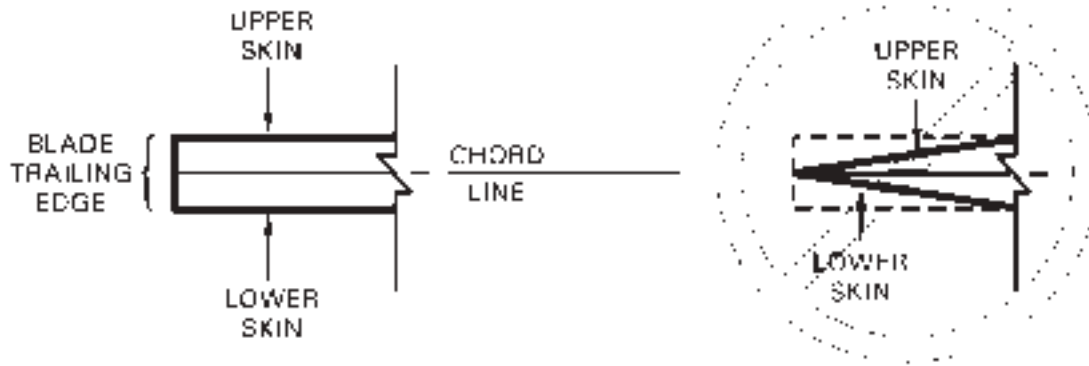

FIGURE 62-15 REPAIRS TO BLADE AND TRIM TAB TRAILING EDGES
1. Refer to Figure 62-15 and § 62-50 for repair procedures for damage within limits. Blend out nicks and notches in blade trailing edge for 1.0 inch minimum each side of nick or notch (with a minimum 12 inch blend radius).
2. File trailing edge to maintain square edge at skins, perpendicular to chord line, per Figure 62-15. Seal exposed trailing edge bond joint.
2. Refer to Figure 62-15 and § 62-50 for repair procedures for damage within limits. Blend out nicks & notches in trim tab trailing edges, 1.0 inch minimum each side of nick or notch (with a minimum 12 inch blend radius) keeping edge parallel with blade trailing edge.